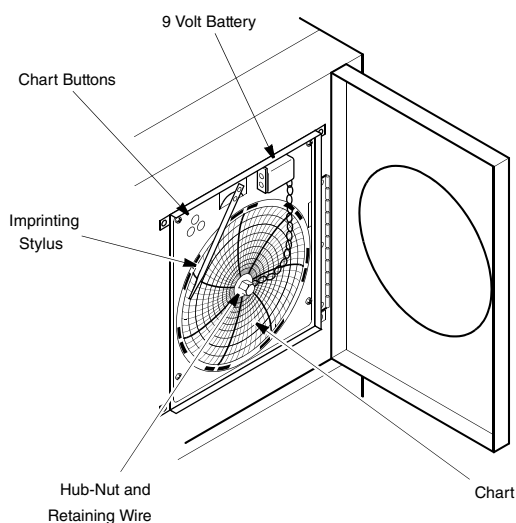

Figure 4. Six Inch Chart Recorder
3. Unscrew the center nut, remove the old chart paper, and install new chart paper. Carefully align the day and time with the reference mark on the recorder panel (a small groove on the left side of the panel, shown in Figure 4).